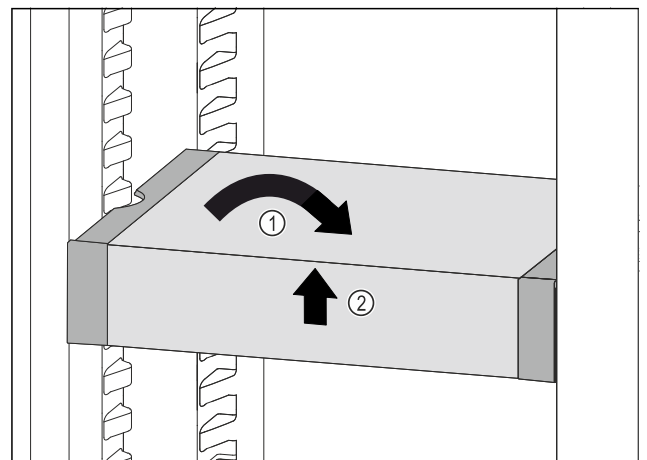

Fig. 201
- Set VarioSafe straight. Fig. 201 (1)
- Lift VarioSafe at the front. Fig. 201 (2)